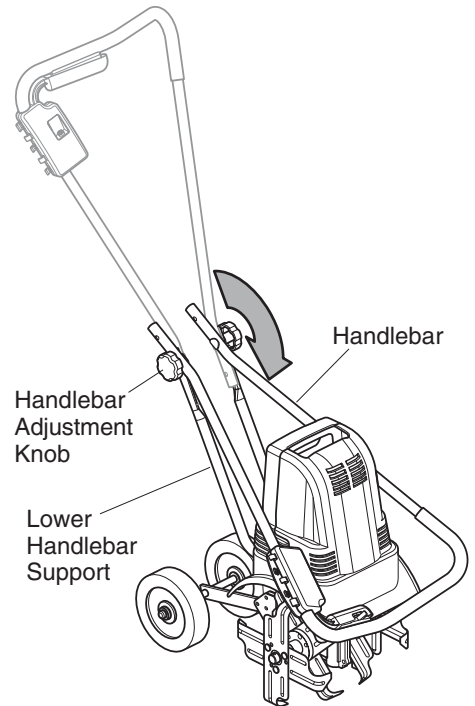

Figure 4 - Folding Handlebar Down
1. Loosen handlebar adjustment knobs. Rotate the handlebar forward and down over the tiller housing (see Figure 4). Do not force handlebar. If there is binding, continue to loosen knobs. Be careful not to pinch power cord between handlebar and lower handlebar support.